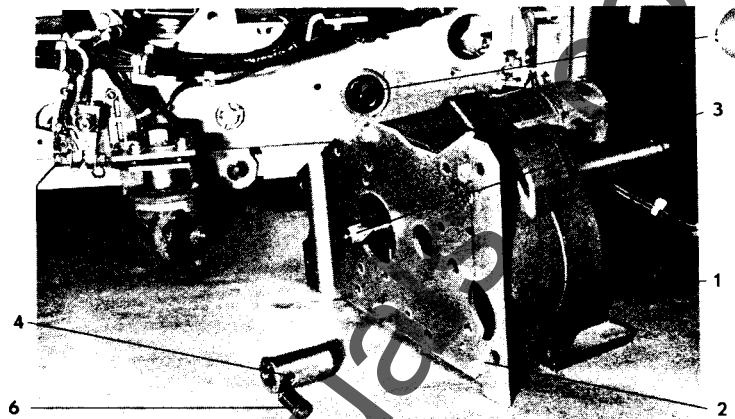

Fig. A8 Spring Charging Motor
Cut the two motor leads at the butt connectors (or remove the motor leads from the terminal block if installed). Remove the four bolts holding the motor bracket, (2) Fig. A8, to the breaker frame. Withdraw the spring charging motor and mounting bracket from the breaker.
Examine the spline adapter, (4) Fig. A8, that the output shaft of the motor engages. If the spline adapter is damaged, remove it by removing the "star retainer" and the wind shaft drive pin. NOTE: To gain access to the "star retainer" the phase 3 interrupter assembly and phase 3 wire cover must be removed.